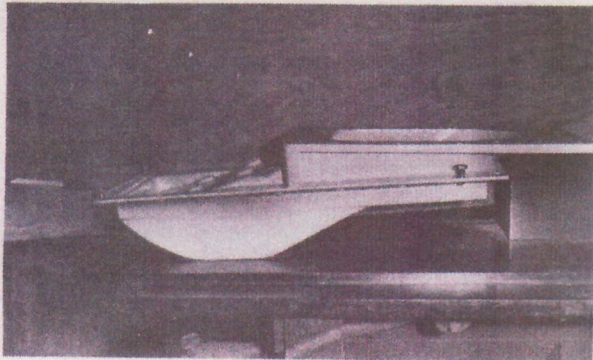

Figure 5
- Loosely insert the intake adapter into the boat with the 4-3/8" leveling bolts threaded into the corners (Figure 5). Raise the casting with the leveling screws so that it matches the outside boat bottom as near as possible with the least amount of filling and fairing. Note: It may be necessary to bevel the bottom inside edge of transom opening if the transom is thick.